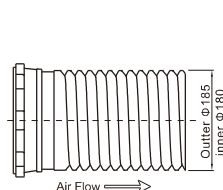

Figure 3
- Extend the flexible duct into the opened air outlet. The flow pipe should be freely bent, and the pipe wall has no concave and convex deformation, the connection is tight and the rotation pieces is smooth and natural;(As figure 3)